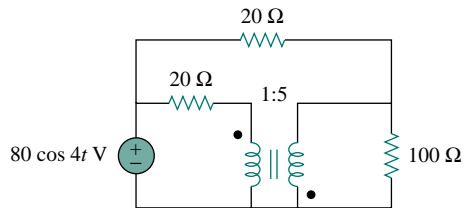

Figure 13.109 For Prob. 13.42.
- 13.42** Determine the average power absorbed by each resistor in the circuit of Fig. 13.109.